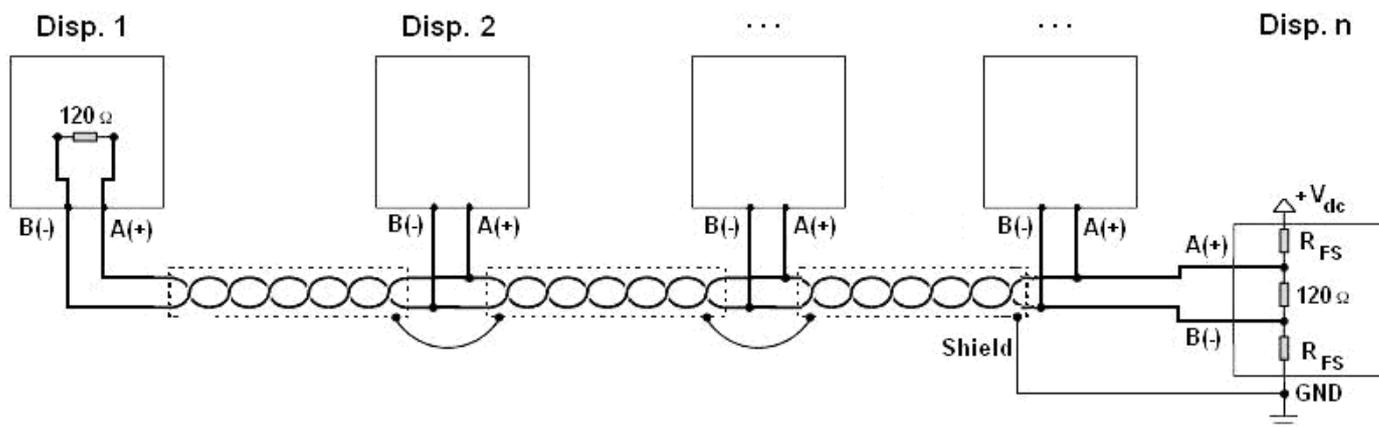

Figure 1: electrical diagram of RS485 connections.
- On the RS485 network normally one connects 2 **termination resistances** equal to the characteristic impedance of the cable (typically 120 Ω, see Figure 1), **ONLY** on the 2 devices **which are at the 2 ends of the ring connection**.
To create a resistive divider which maintains this difference of potential also when all the transmitters are disabled, inert in the RS485 port of the indicator where there are the termination resistances, the **polarisation** or **fail-safe resistances** (R_{FS} in Figure 1). The value of these resistances is between 390 Ω and 2,2 kΩ.